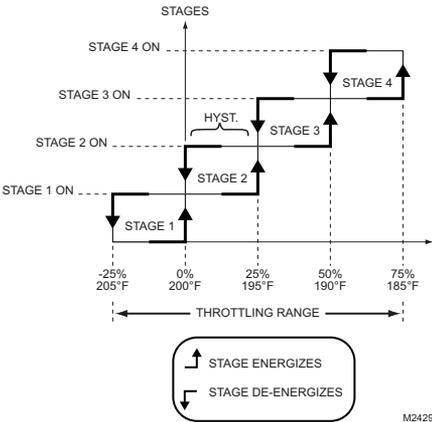

Fig. 18. Staging Behavior.
Staging occurs as illustrated in Fig. 18 for a Heat setpoint of 200°F and a throttling range of 20°F when the Integral value is zero (0). When the Integral is not zero, then the actual temperatures at which stages energize and de-energize will vary from this example; see "1.3.4.2. INTEGRAL" on page 18.